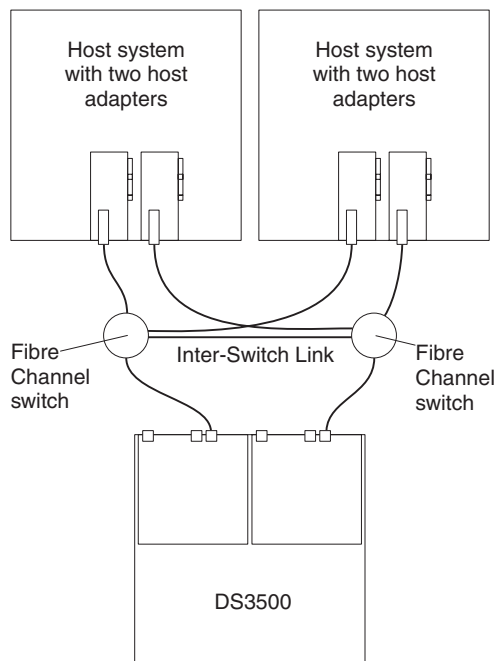

Figure 3-46. Example of a single Fibre Channel SAN fabric configuration
- Single SAN fabric configuration, as shown in Figure 3-46 on page 3-37
In Figure 3-46 on page 3-37, the Fibre Channel switches are connected together through the Inter-Switch Link (ISL) to form a single SAN fabric.